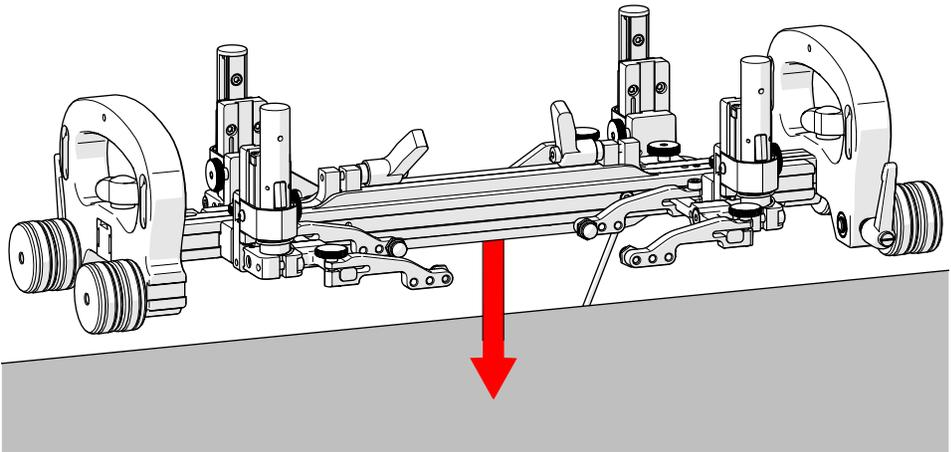

Fig. 92 - Place scanner on scan surface
7. Place the configured scanner on the scan surface (Fig. 92).